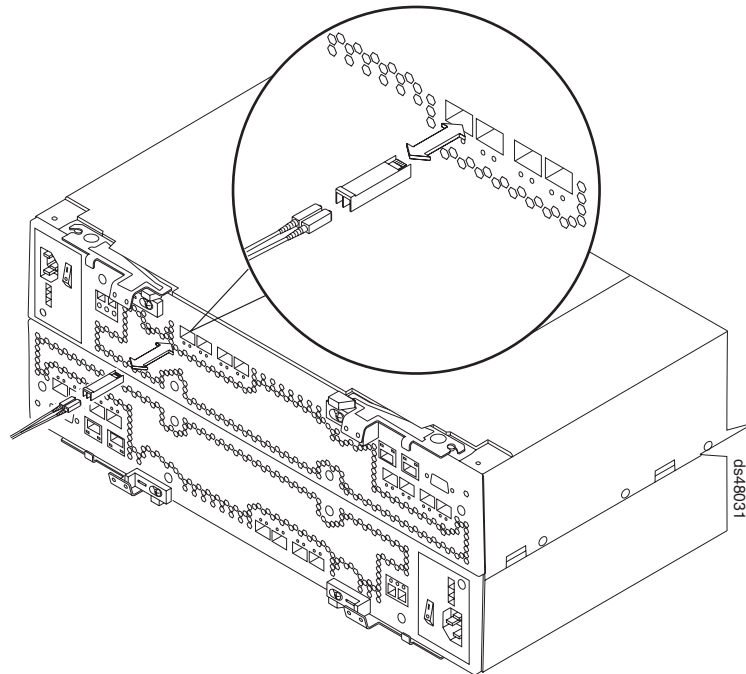

Figure 98. Replacing an SFP module
6. Disconnect the interface cable from the SFP module. (Figure 98 on page 157 shows the SFP module, interface cable, and the rear of a controller.)